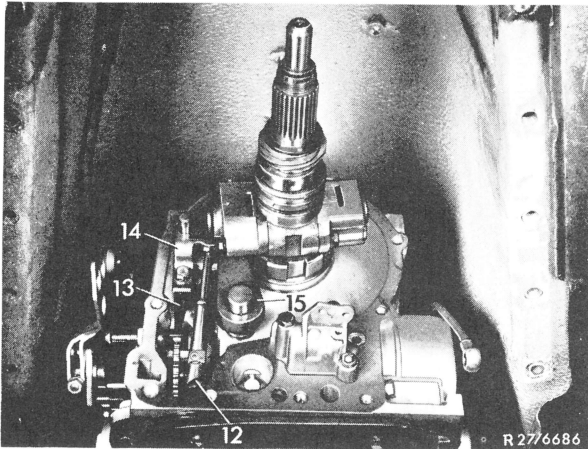
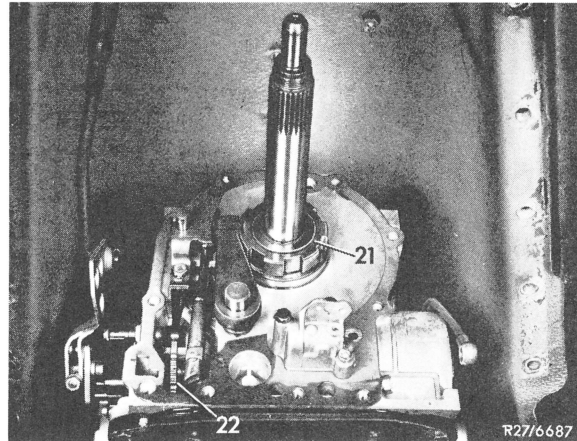

Fig. 1
Fig. 2
- 3 Screw fastening bolt from holder (14) and remove holder together with leaf spring (13) (Fig. 1).
- 4 Remove resilient linkage (12).
- 5 Remove parking lock pawl (15) together with clamping spring.
- 6 Pull parking lock gear (21) from output shaft (Fig. 2).
- 7 Attach parking lock gear (21) to output shaft (Fig. 2) and slide parking lock pawl (15) with clamping spring on bearing pin (Fig. 1).
- 8 Install resilient linkage (12) (Fig. 1).
- 9 Install leaf spring (13), needle bearing supported roller and holder (14) and tighten fastening bolt to 1.0 kpm.